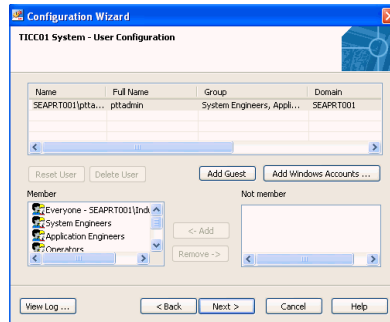

Figure 51. Add Guest
- Click the **Add Guest** button. See Figure 51.